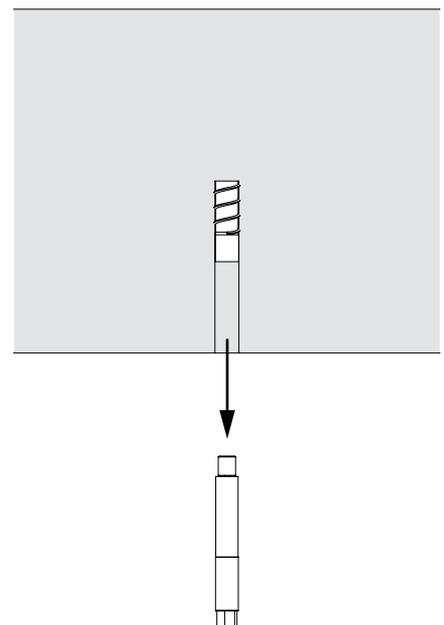

Fig. A5.16
1. Screw out the Anchor Bolt M16/M24 x 50 (51) after use. (Fig. A5.16)